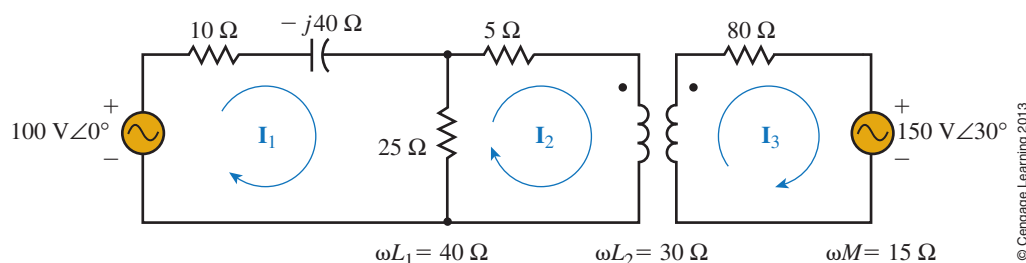

FIGURE 23-84
40. Write mesh equations for the circuit of Figure 23-84.